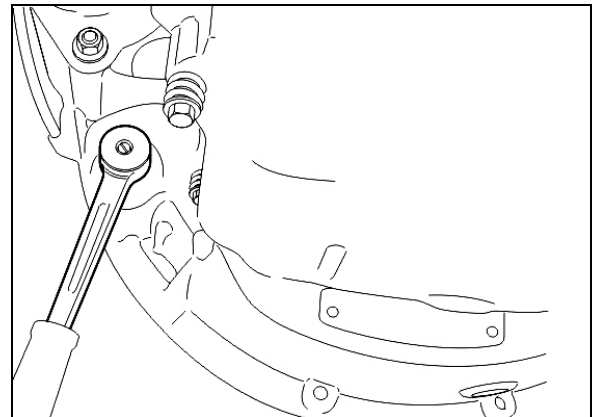

FIGURE 12: VOLVO ENGINE CRANKING POSITION
<p>NOTE</p> <p>Remove starter motor located on engine L.H. side. Removing the starter motor will allow access to unfasten the 12 converter-to-flexible plate attaching screws. Remove the plug located below starter motor and install cranking tool (88800014). Cranking the engine to gain access to the attaching screws may be done by turning the cranking tool using a suitable adapter (fig. 12).</p>
*Remove the plug located below starter motor and install cranking tool (88800014). Crank the engine to gain access to the threaded holes by turning the cranking tool using a suitable adapter (Refer to fig. 12).*